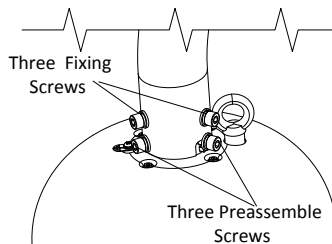

Figure 2-8 Secure the Speed Dome
5. Screw three fixing screws into the fixing screws holes on the bracket. Then tighten three preassemble screws to secure the speed dome as shown in Figure 2-8.